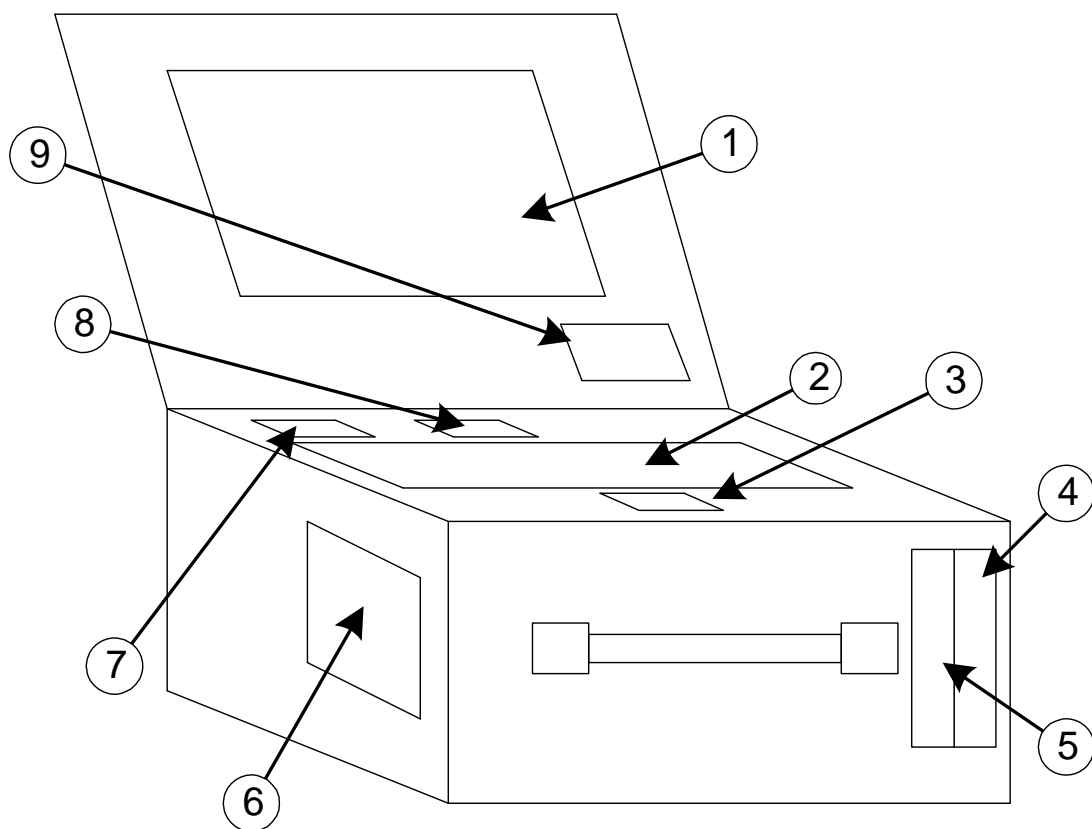

Figure 3. Front view of the M4000-S1
The controls for this module are factory fitted to the front panel of the M4000-S1 and are located as indicated by item 8 on Figure 3.